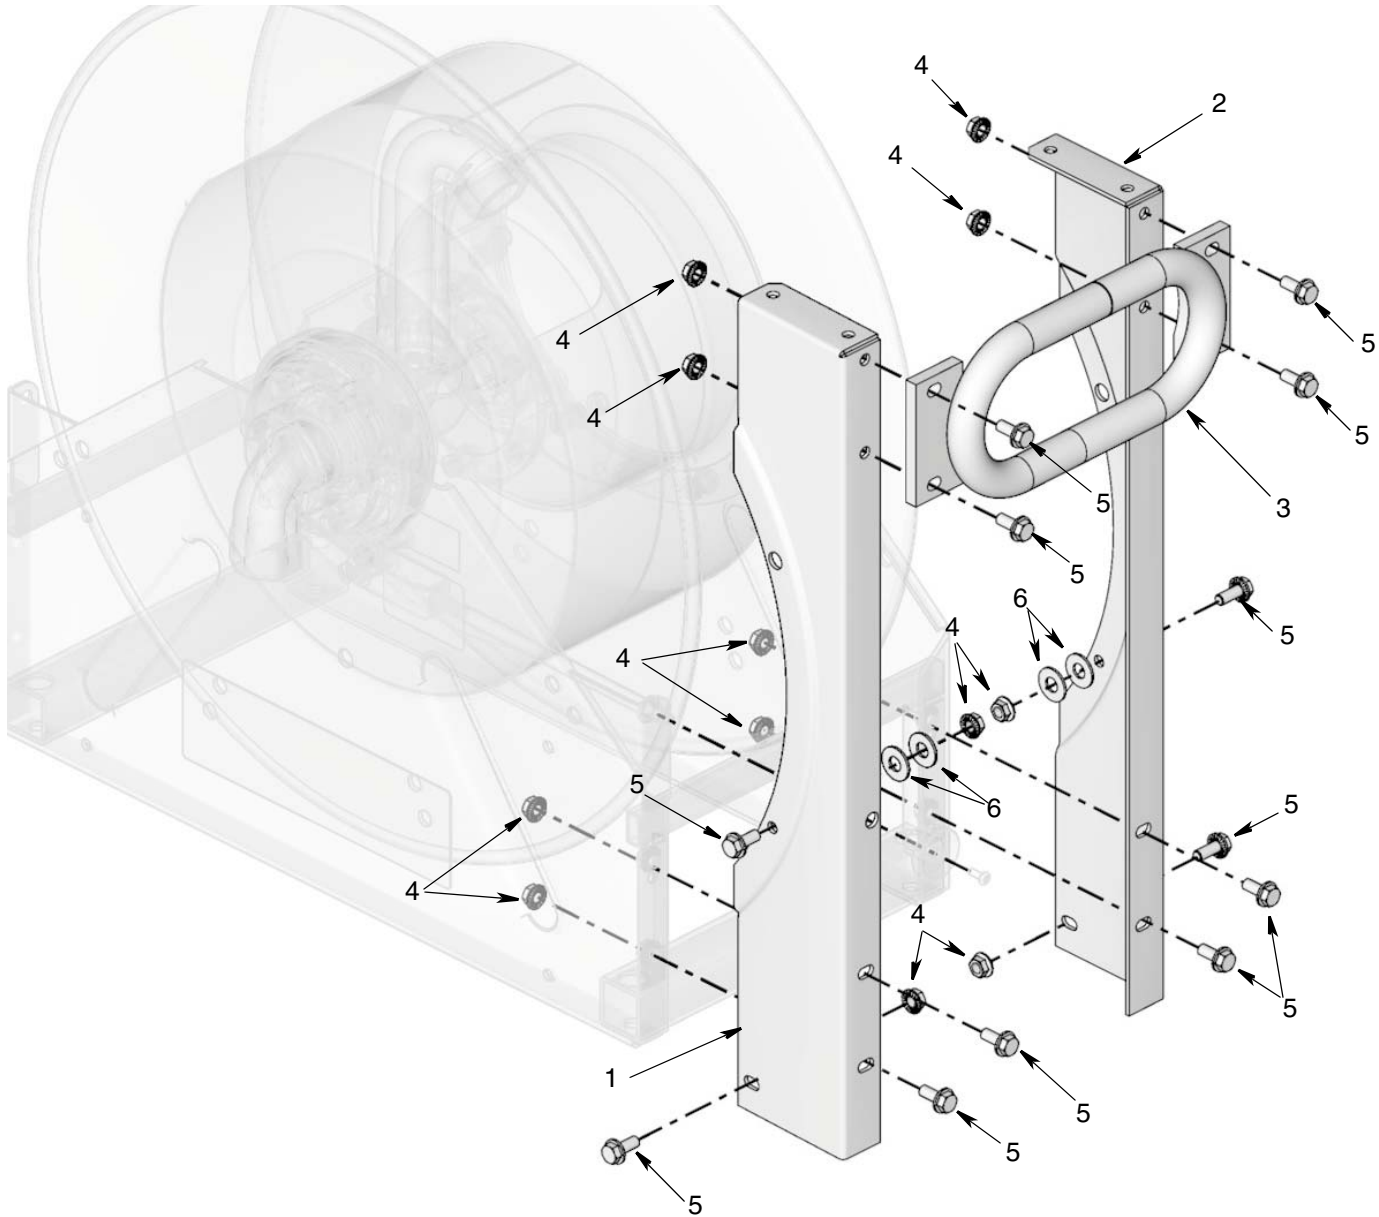
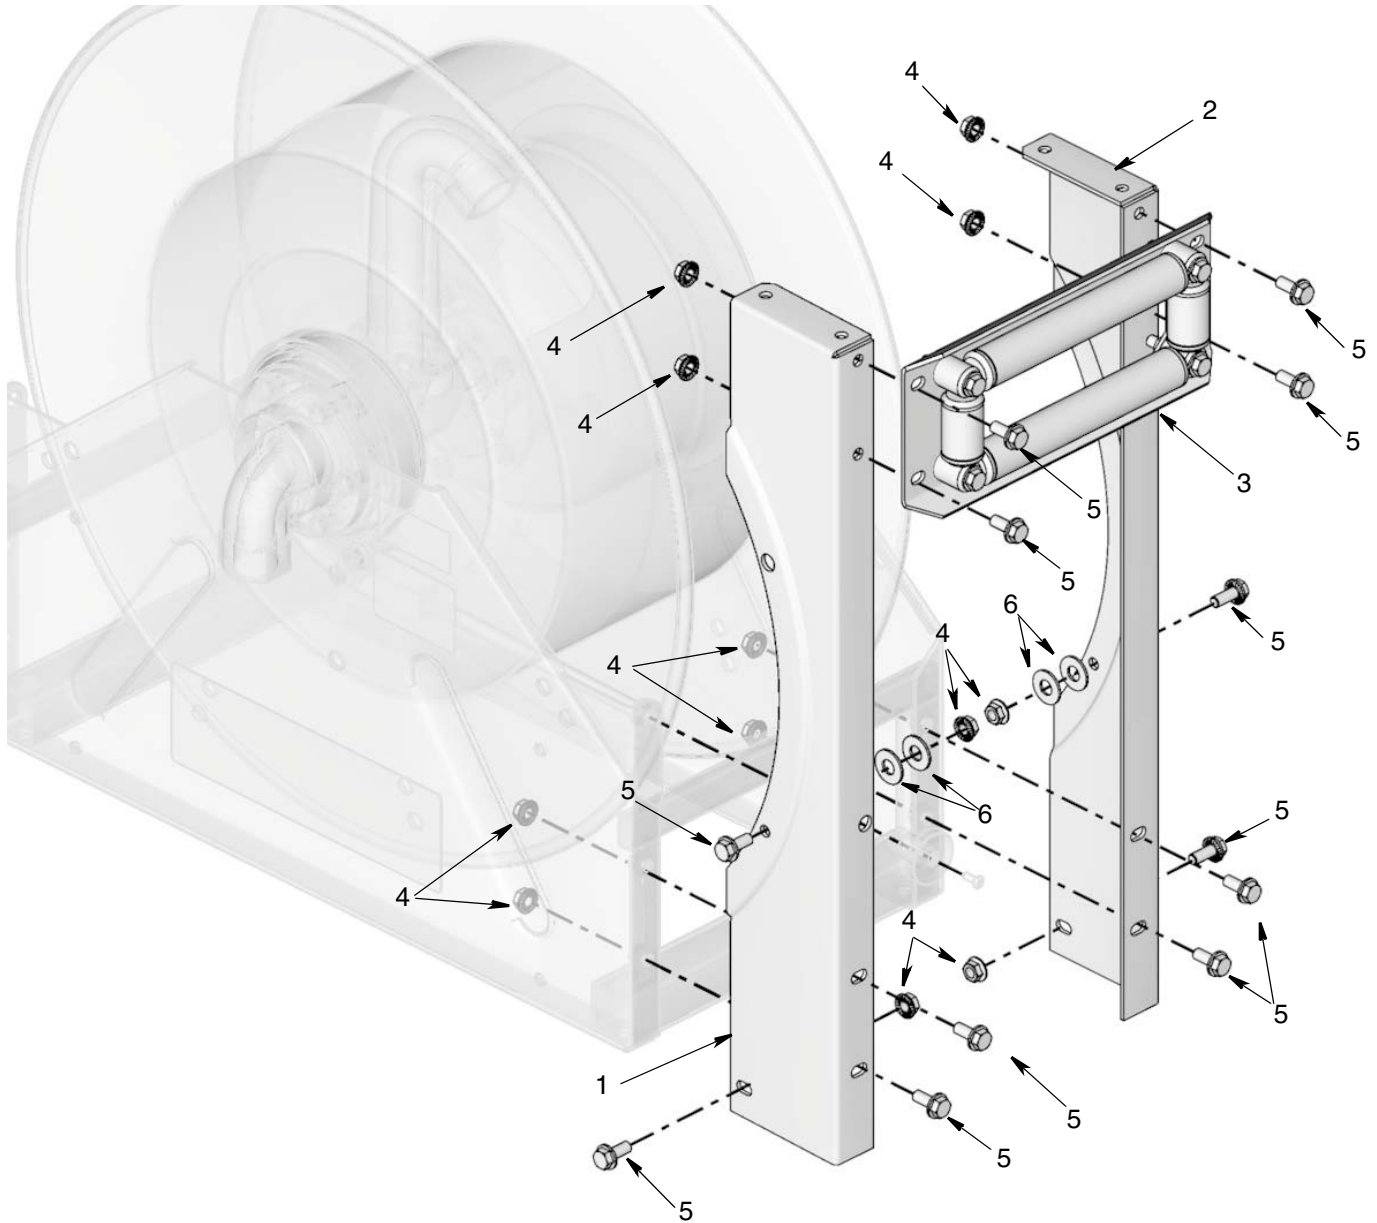

FIG. 8
FIG. 9
- For Steps 7 - 9 refer to FIG. 8 (page 4) or FIG. 9 (page 5) for installation details.
- The fairlead without rollers (Kits 24T332, 24T333, 24T334) is shown in FIG. 8. The fairlead with rollers (kits 24T335, 24T336, 24T337) is shown in FIG. 9.
7. Secure bracket (1) to hose reel base (a) using screws (5), nuts (4) and washers (6). (Washers are included in XD 60 and XD 70 model's kits only. The XD 80 model does not use washers.)
8. Secure bracket (2) to hose reel base (a) using screws (5), nuts (4) and washers (6).
9. Install the roller fairlead (3) to the roller support arms using screws (5) and nuts (4).
10. Reroute the hose through the reel fairlead (3).